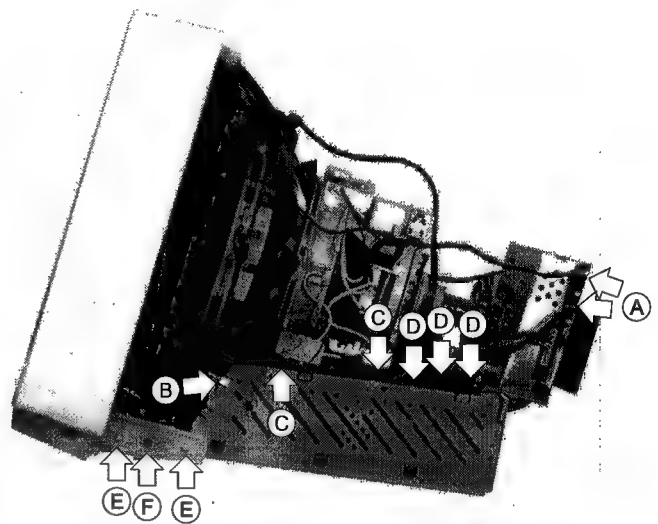

Figure 2-2 Remove the screws
1. Disconnect the two ground wires from the neck shield. Refer to the figure 2-2 (A).
2. Disconnect the ground wire from the U bracket. Refer to the figure 2-2 (B).
3. Release the two cable wires to free the cable. Refer to the figure 2-2 (C).
4. Remove the three connected pins from the main board. Refer to the figure 2-2 (D).
5. Remove the two screws at the bezel. Refer to the figure 2-2 (E).
6. Remove the nylon revet holding from the bezel. Refer to the figure 2-2 (F).